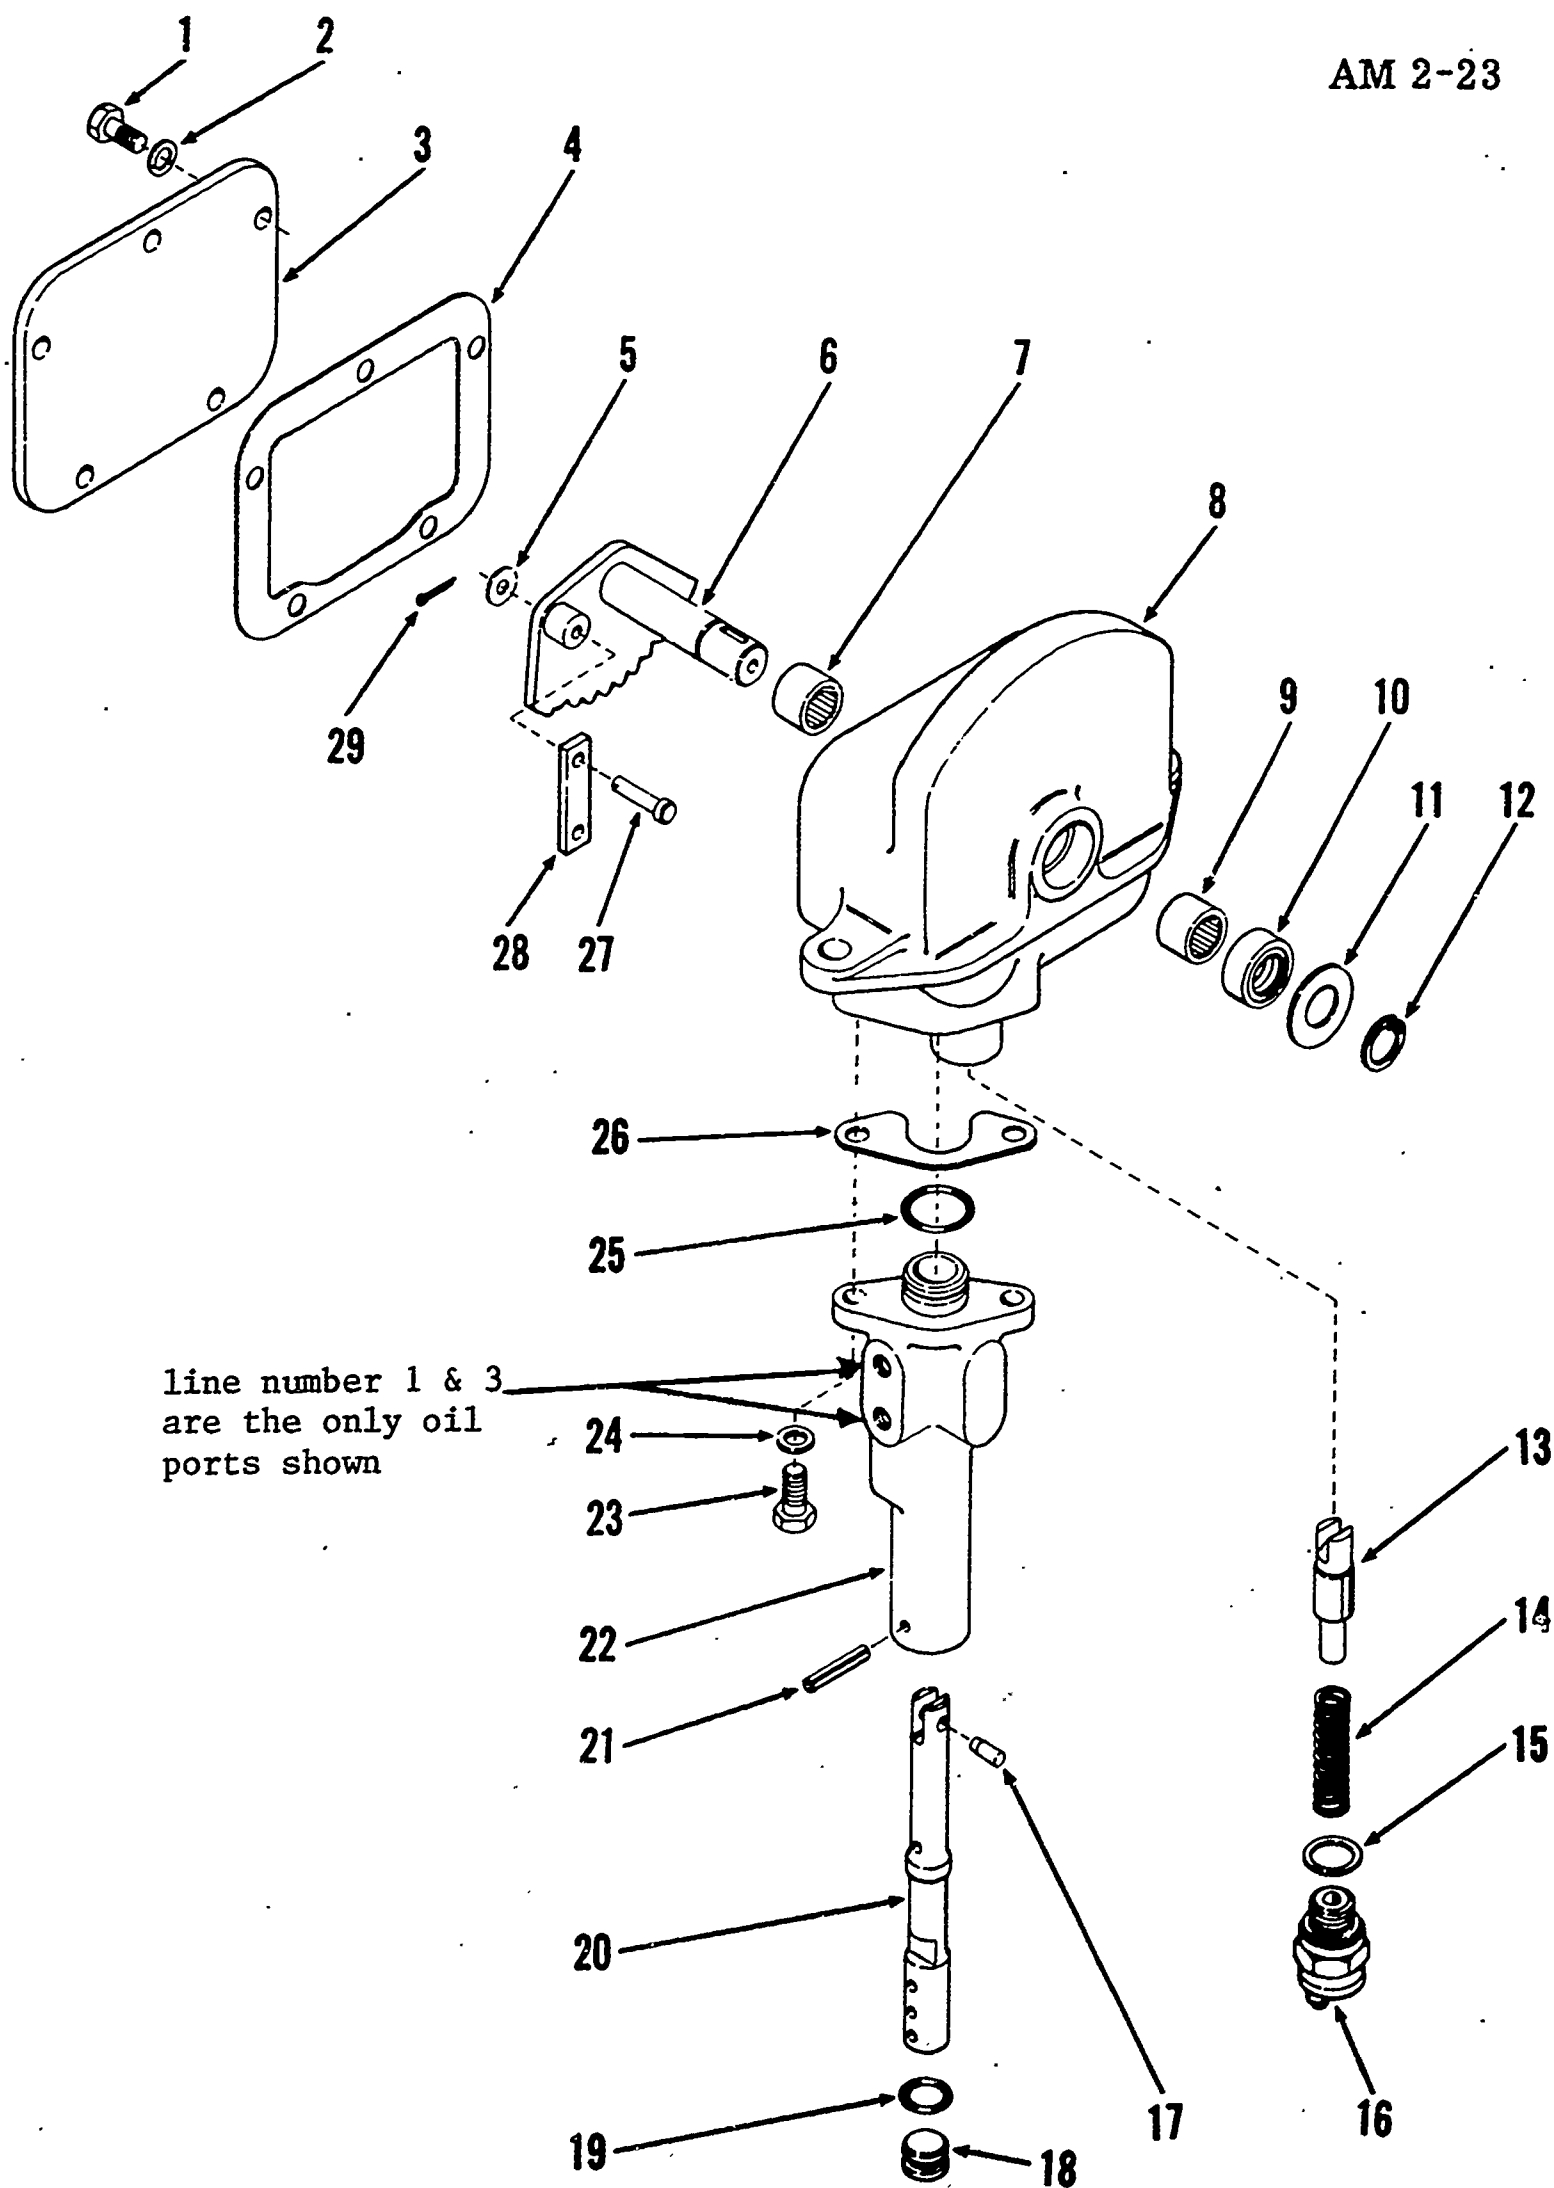

Fig. 11 Breakdown of the shift control valve
SHIFT CONTROL VALVE DISASSEMBLED -- Figure 11 shows a parts breakdown of the shift control valve. The speed range lever, located on the steering column, is connected to a cam with eight detents, item No. 6. The detent stop consists of items 13 and 14. There is a microswitch holding the detent spring in position. This microswitch is used for vehicles with lock-up in the converter; The switch prevents any shifting of the transmission when the converter is in lock-up.